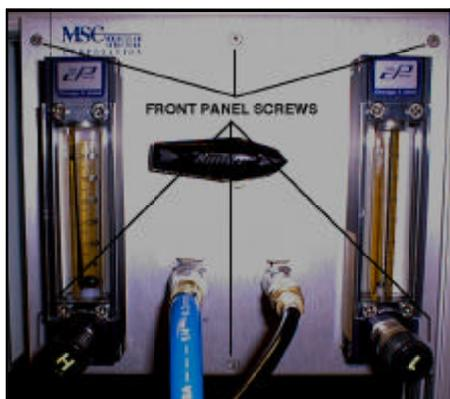

Figure 5-14. Helium control box front panel screws.
- 3) The flowmeter is clogged. Ensure the flowmeters are working by setting the control knob to **Slow Purge** and then **Flood**. Verify the silver ball in each flowmeter is moving. If there is no movement on either side, the main tube to the manifold is likely separated. Take the front panel of the control box off by removing the six screws on the front, Figure 5-14. If the main tube is separated, the gas leak will be heard. Ensure the tube is connected properly. If there is movement on only one side, or after checking the main tube, there is still no movement in both flowmeters, contact an MSC/Rigaku service technician.